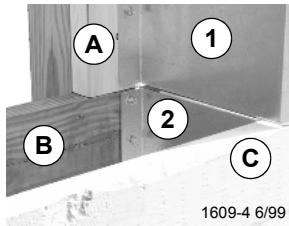

Figure 4. Sump End
1. First Install Bottom Bracket on sump end, by aligning the Bottom Bracket with side panels, see **Figure 4**.